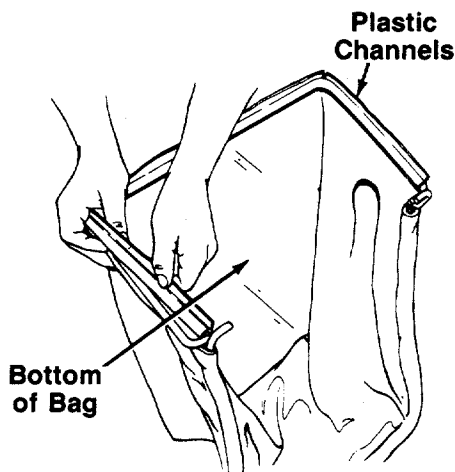

FIGURE 15.
3. Secure front of bag to front frame by slipping plastic channels on sides and bottom of bag over frame. See figure 15.